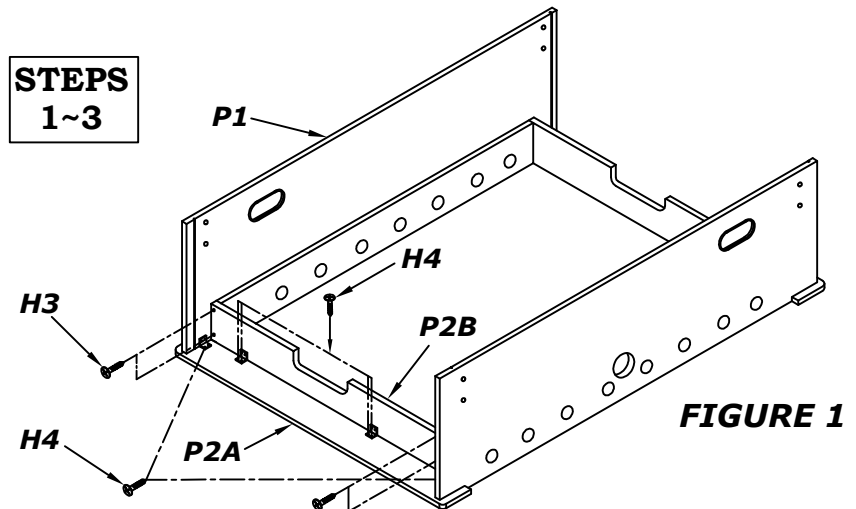

FIGURE 1
- 1 ATTACH THE END PANEL BRACKET **P21** TO THE INSIDE OF **P2B** AND **P2C**. PLACE SIDE PANELS **P1** UPSIDE DOWN WITH THE SLOT FACING INWARD AS SHOWN IN **figure 1**. (BALL ENTRY HOLE WILL BE CLOSEST TO THE FLOOR.)
- 2 ATTACH THE TWO END PANELS **P2B** TO THE SIDEPANEL **P1** WITH SCREW **H3** AS SHOWN IN **figure 1**.
- 3 ATTACH THE TWO END PANELS **P2A** TO THE SIDEPANEL **P1** WITH SCREW **H4** AS SHOWN IN **figure 1**